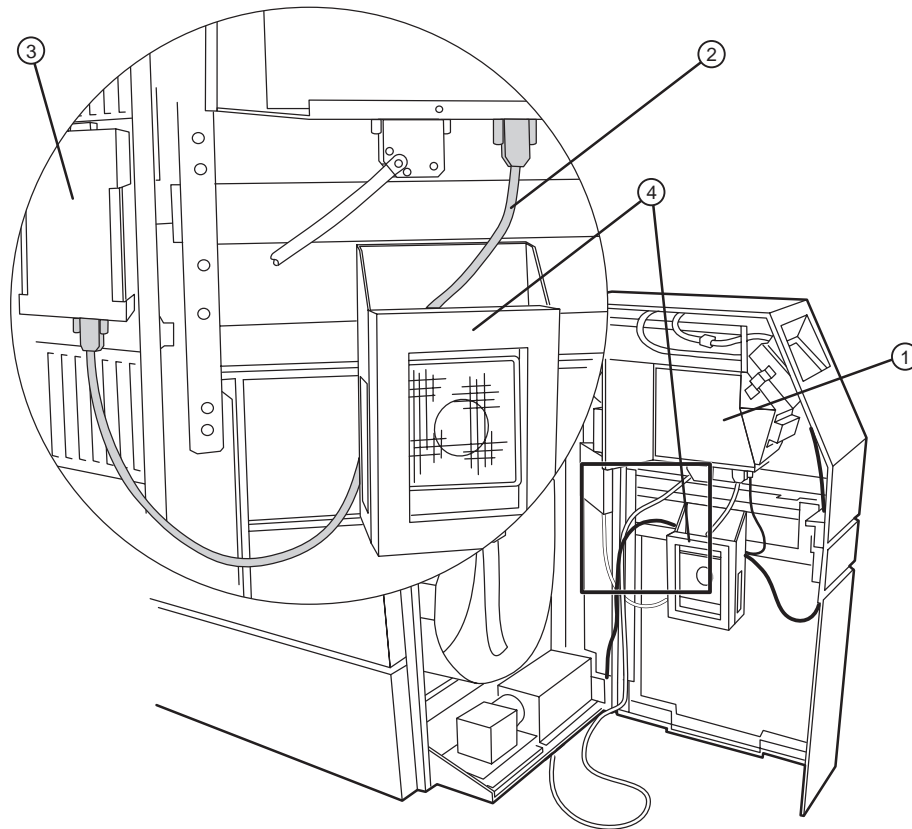

Figure 1-20 Routing and connecting the interface board cable.
Refer to Figure 1-20.
3. Pass the interface board cable through the left side of the fan housing and connect the cable with the DEC board on the right door. Refer to Figure 1-20.